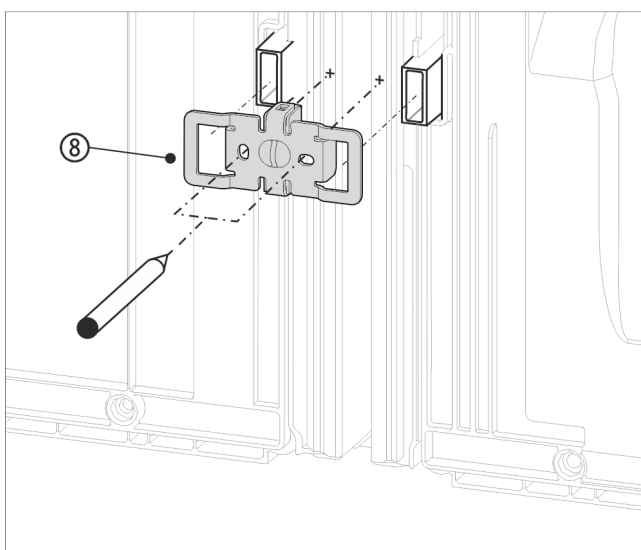

Fig. 17 Example illustration
- Slide the bracket Fig. 17 (8) with the slots over the retainer for the wall spacers.